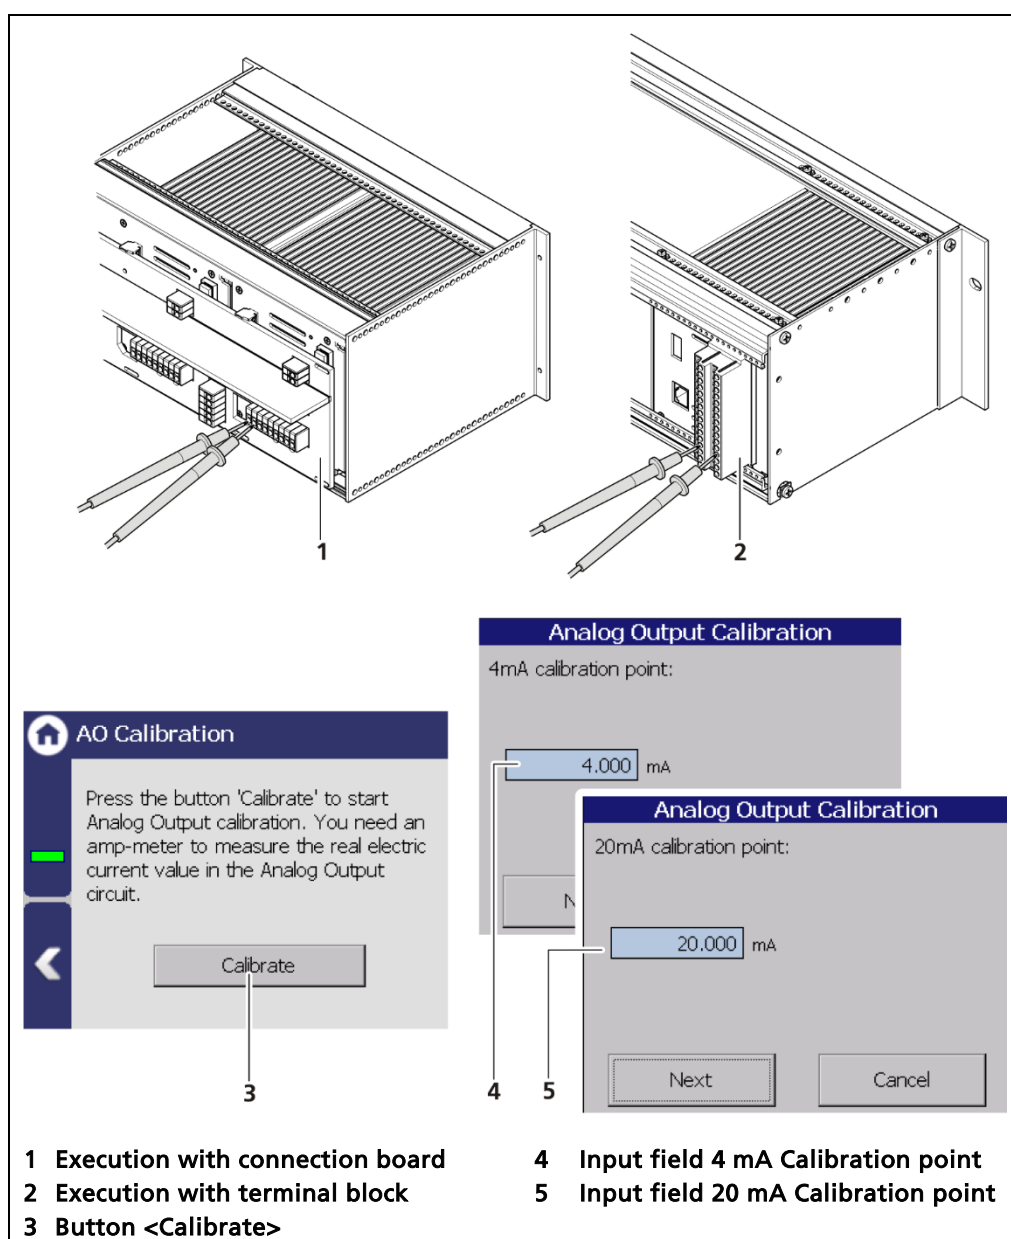

Fig. 117 Analog output (calibration)
4. Enter the indicated value on the current measuring instrument in the input box (Fig. 117, item 4).
6. Enter the indicated value on the current measuring instrument in the input box (Fig. 117, item 5).